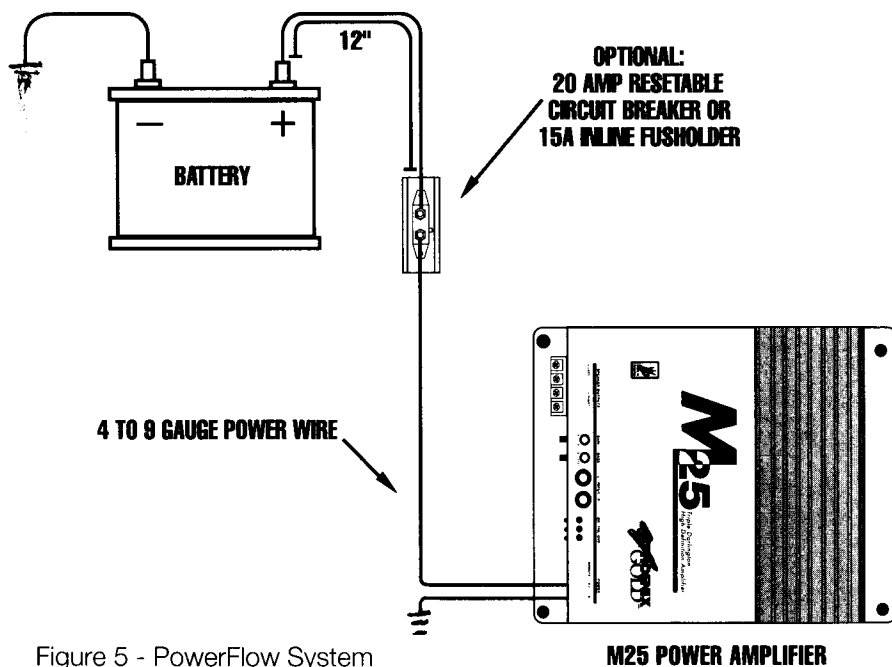

Figure 5 - PowerFlow System
2. Always place a fuse or circuit breaker no more than 12 inches from the battery. This protection is only for the vehicle, not the stereo and should be no greater than 15-20 amps per amplifier. (See Figure 5)